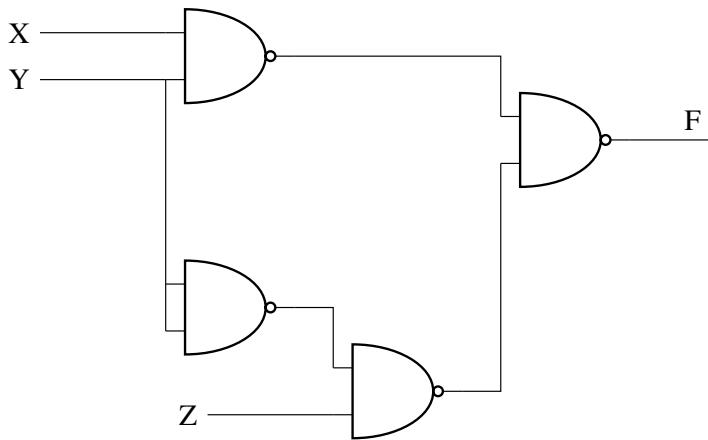

Fig. 3.9
20. Find  $F$  in the Digital Circuit given in the figure below in Fig. 3.9. (GATE IN 2016)